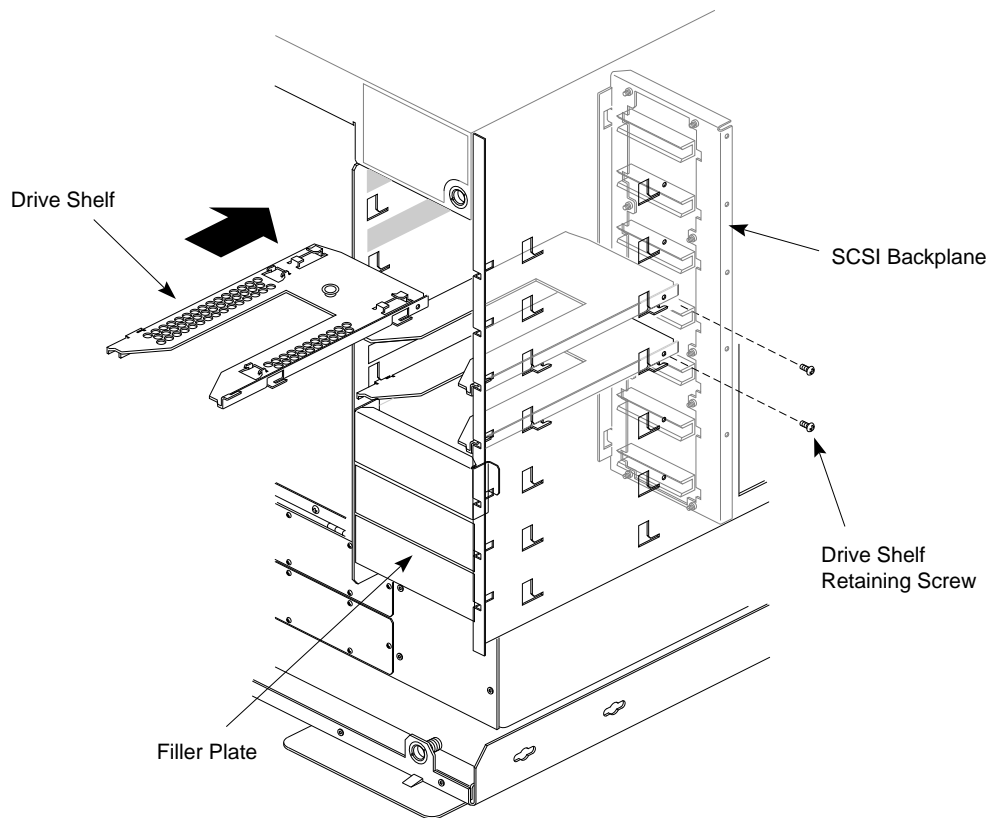

Figure 5-92 Replacing a Drive Shelf
5. On the exposed sheet-metal, remove the screw holding the appropriate drive shelf in place. See Figure 5-92.
7. Remove the access cover plate over the bulkhead assembly by removing four screws from the sheet-metal housing on the right side of the chassis (see Figure 5-92). Lift the cover from the bottom and away from the chassis.
Caution: With the cover off, you can now see the bulkhead assembly. Before you start pulling out cables, note the SCSI cable connectors A and B on the bottom of the SCSI backplane (see Figure 5-92). Be sure to label these cables (SCSI A and SCSI B) to ease reinstallation.
9. Remove the OLS power cable and the fan power cable from the back of the SCSI backplane (see Figure 5-92).
Note: When reinserting the side cover, install the top of the cover first into the outside sheet-metal housing. The top of the cover should mesh with the lip of the housing (see Figure 5-92).